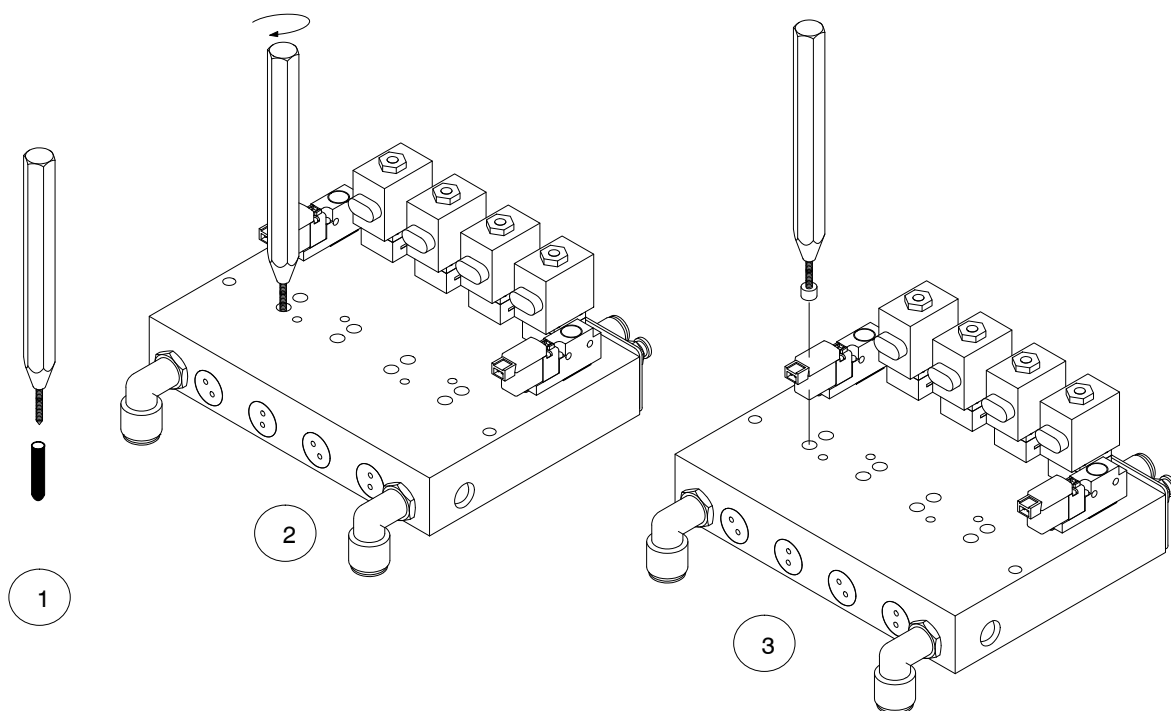

Figure 3 Filter replacement steps 1 through 3.
1. See Figure 3. Remove the cap from the filter replacement tool.